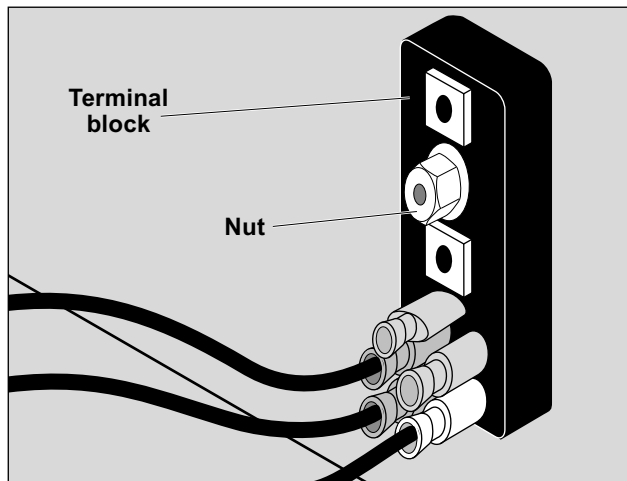

Figure 25. Terminal Block
The Terminal Block, Figure 25, is located on the right side of the unit and is accessible by removing the side panel. It is located in the center of Warmer to the left of the control transformer
2. Reconnect the wires to terminal block as shown in Figure 25.